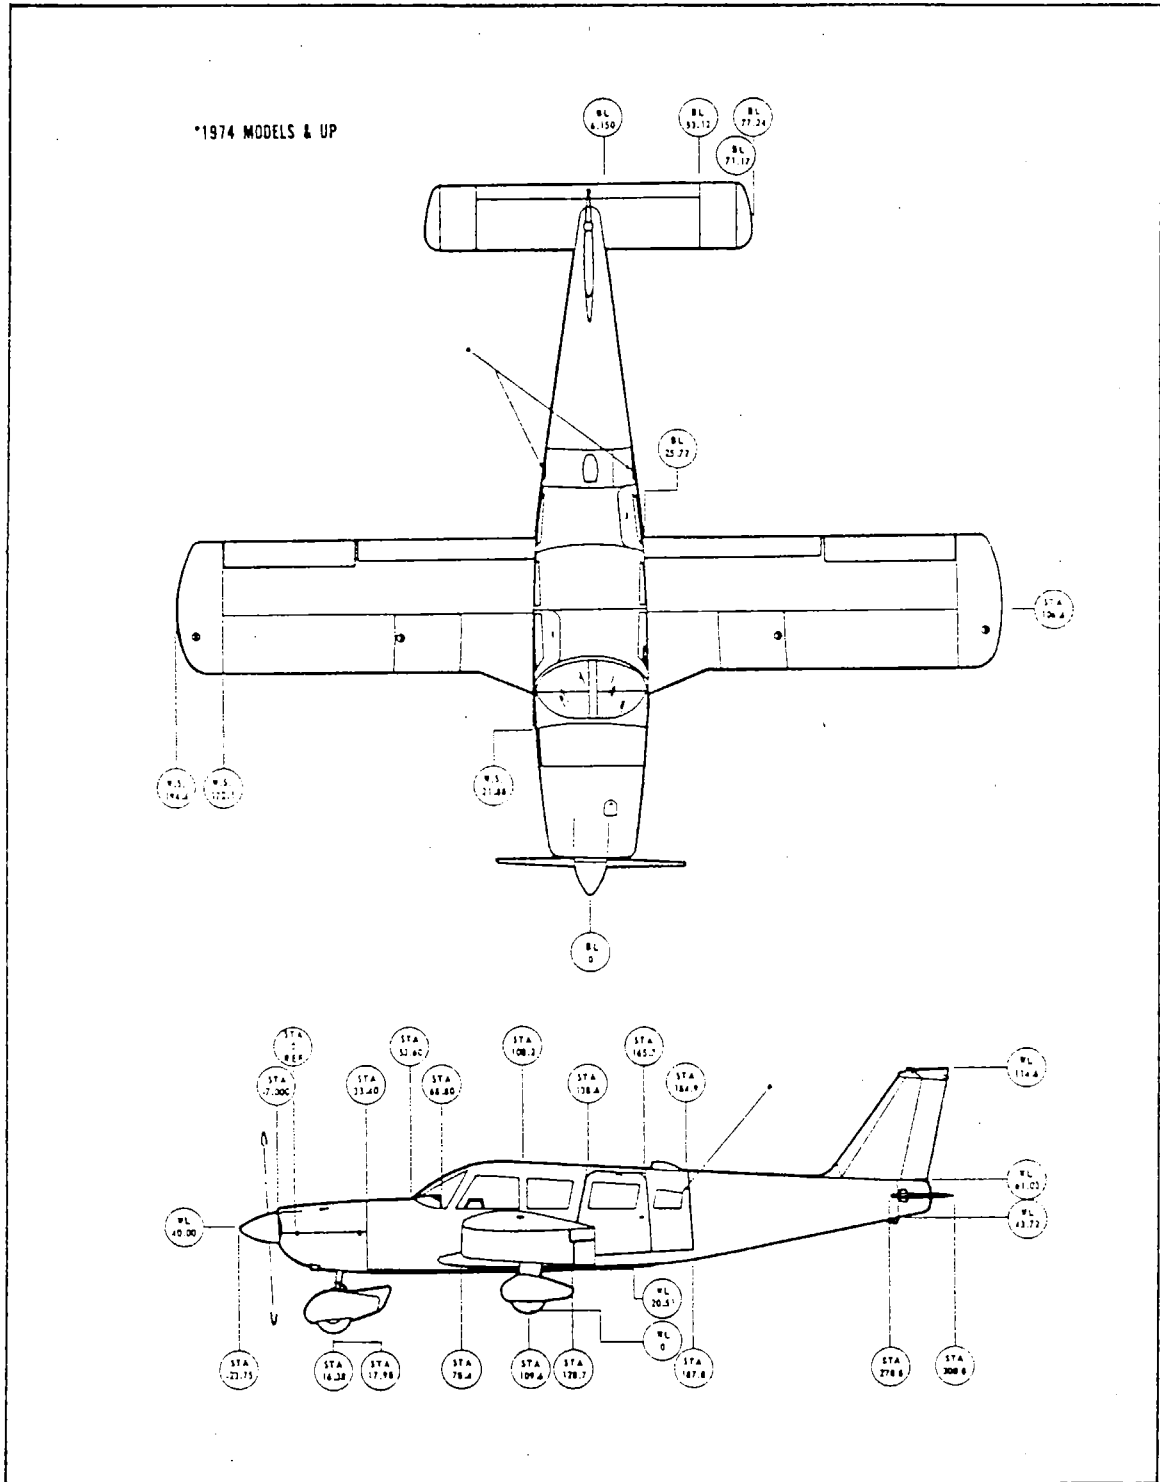
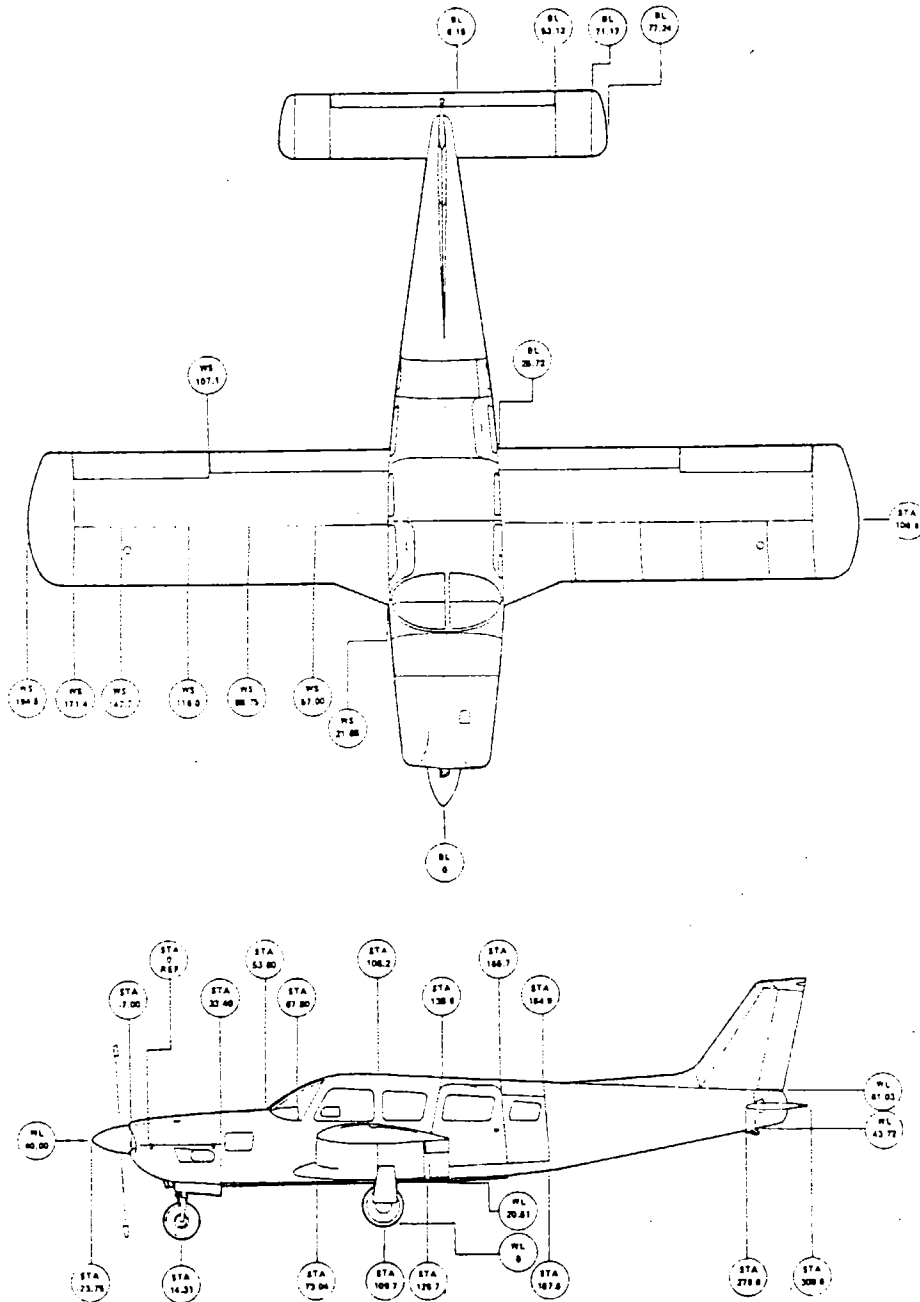

Figure 2-2. Station Reference Lines (PA-32-260 and 300)
Figure 2-2a. Station Reference Lines (PA-32R-300)
2-3. STATION REFERENCE LINES. In order to facilitate the location of various components of the airplane which require maintenance and servicing, a method utilizing fuselage station, wing station or buttock line (BL), and water line (WL) designations is frequently employed in this manual. (Refer to Figure 2-2 or Figure 2-2a.) Fuselage stations, buttock lines, and water lines are reference points measured by inches in the vertical or horizontal direction from a given reference line which indicates station locations of structural members of the airplane. Station 0 of the fuselage is 78.4 inches ahead of the wing leading edge or 33.4 inches ahead of the firewall; station 0 (BL) of the wing and stabilator is the centerline of the airplane; and station 0 (WL) of the vertical stabilizer and rudder is 20.5 inches below the cabin floor as measured at the rear wing spar with the airplane level. The reference datum line is located 78.4 inches ahead of the wing leading edge at the intersection of the straight and tapered section.